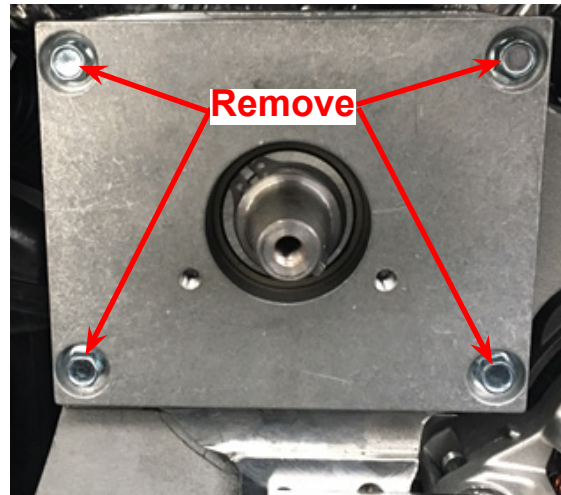

Figure 31a. Preparing the Clutch Assembly
1. Remove the clutch coil and the clutch spacer plate. (Figure 31a)